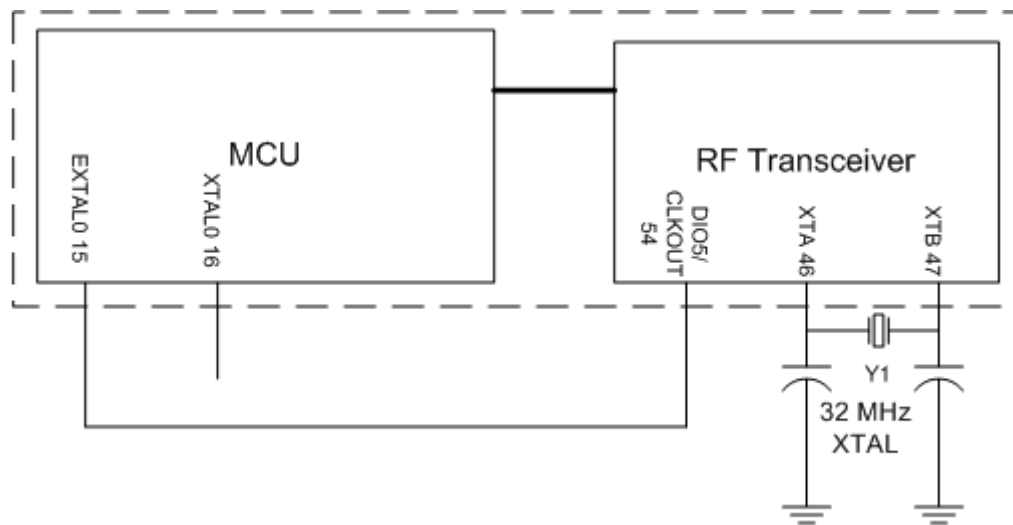

Figure 3. MKW01 Single Crystal System Clock Connection
- Pins 46 & 47 are provided to input a 32 or 30 MHz crystal for the transceiver reference clock source (required) as shown in Figure 3.
- The transceiver can be programmed to provide a programmable frequency clock output (DIO5 which alternates as CLKOUT, pin 54) that can be used as an external source to the CPU (see Figure 3 and Figure 4). As a result, a single crystal system clock solution is possible where the transceiver reference clock source. Routing CLKOUT to the MCU without dividing it is recommended, but it can be divided by 2, 4, 8, 16 and 32.